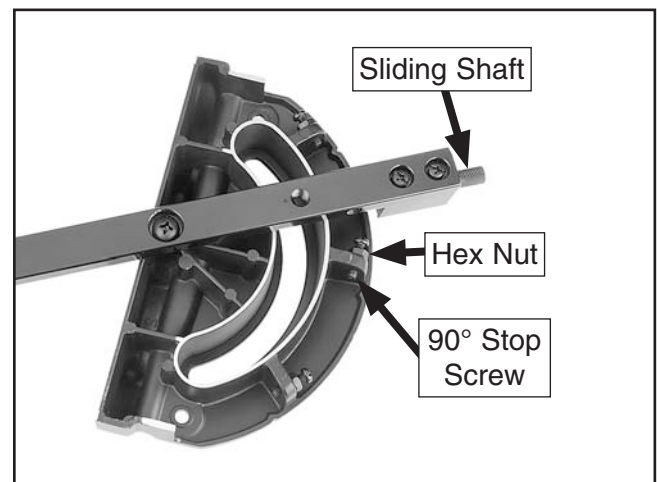

Figure 119. Checking 45° stop on miter gauge.
5. Loosen the hex nut (jam nut) that secures the 90° stop screw (see **Figure 119**), and adjust the stop screw until it is seated against the shaft while the square is evenly touching the miter body and the blade body, then tighten the hex nut.